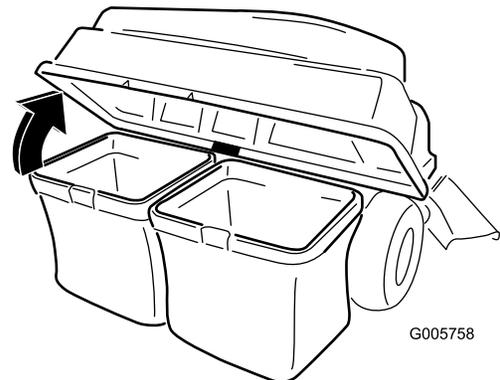

Figure 33
3. Open (raise) the bagger top (Figure 33).